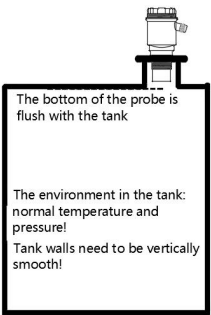
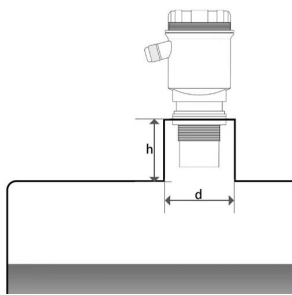
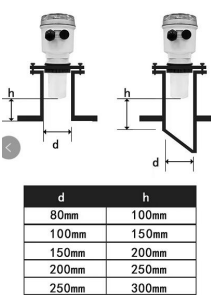

Figure 3
Figure 4
Figure 5
5) For flange installation on tanks at normal temperature and pressure, the probe surface of the instrument is best exposed in the tank, as shown in Figure 3; if it is not possible in the field environment, the diameter of the pipe fixing the flange is shown in Figure 4 and Figure 5, and the length h is between 100mm-300mm The larger the h value, the larger the corresponding d value.